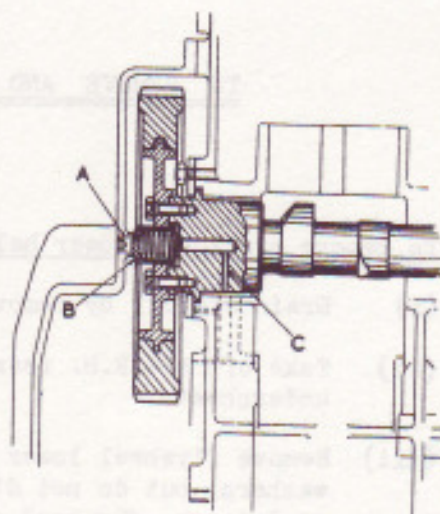

FIG. 2. OILWAYS LUBRICATING CAMSHAFT THRUST BUTTON.
The thrust face of the spring loaded plunger (B, Fig. 2) fitted to the front end of the camshaft, and the thrust button (A), fitted to the wheelcase, are lubricated by high pressure oil once per revolution of the camshaft.